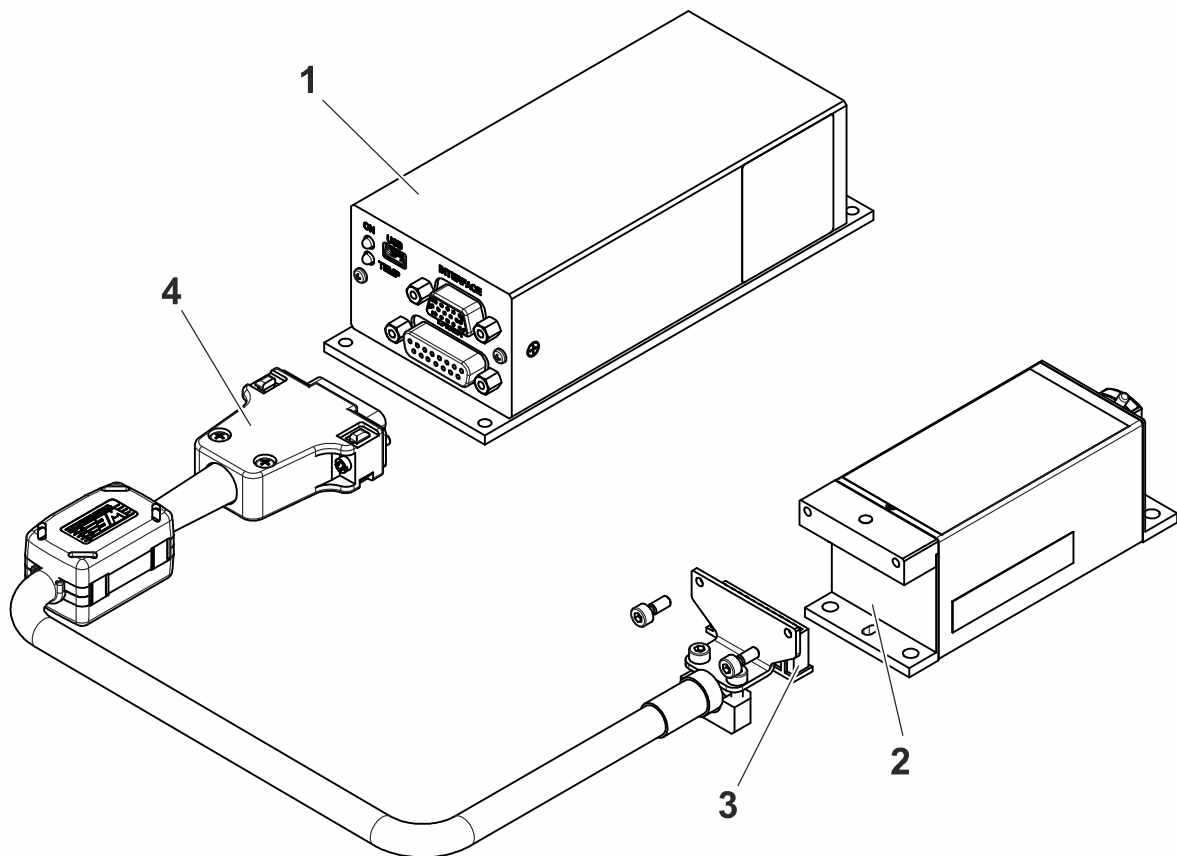

Fig. 12 Connecting DPSSL
- If not mounted connect the connecting cable with its 24-pin female connector (Fig. 12/3) to the male connector at the laser module (Fig. 12/2).
- Connect the other end of the connecting cable with its 15-pin SUB-D male connector (Fig. 12/4) to the Sub-D female connector **LASER** of the control unit (Fig. 12/1).